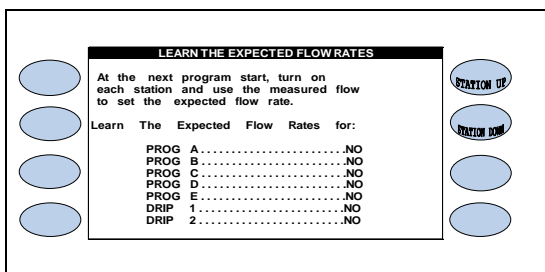

Figure 10.7
1.  Press the **LEARN EXPECTED THE EXPECTED FLOW RATES** screen (Figure 10.7).